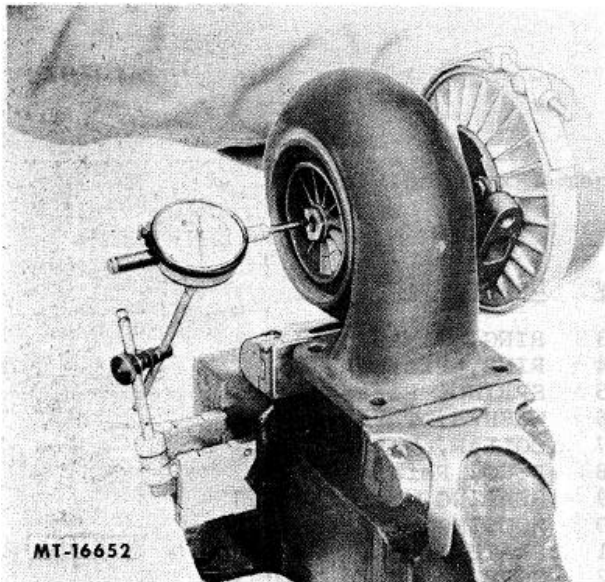

Fig. 8 Checking Axial End Play
1. Clamp turbocharger in a vise and position a dial indicator with a magnetic base on the frame of the vise (Fig. 8). (Any type base may be used as long as a similar position can be obtained.) Place the foot of the indicator on the turbine end of the shaft.